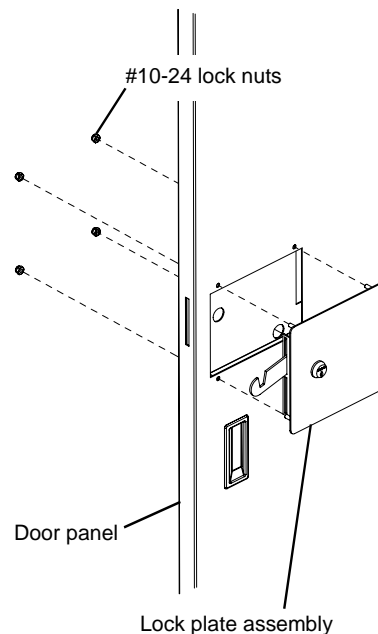

Figure 11
2. Position the lock plate assembly into the door cutout. Secure the lock plate assembly with four #10-24 lock nuts. See figure 11.